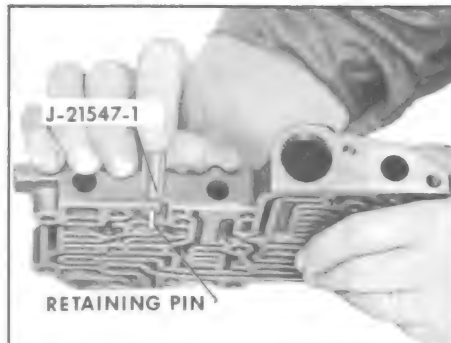

Figure 5-171
4. Depress high speed down shift timing valve plug and remove pin by turning valve body over so pin will fall free. See Figure 5-171.